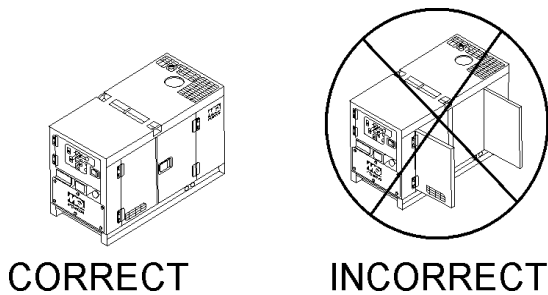

Figure 46. Engine Enclosure Doors
4. Close all engine enclosure doors (Figure 46).